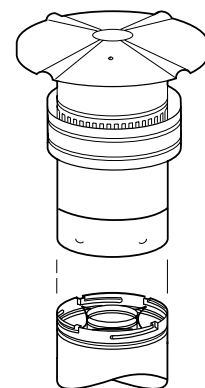

Figure 27
K. Install the vertical termination - The final step involves installation of the SV4.5VTR Vertical Termination. Extend the vent sections to the height as shown in the "Vertical vent termination section" on **page 5**. The SV4.5VTR Vertical Termination (**Figure 27**) installs in the exact same fashion as any other **Secure Vent** section. Align the termination over the end of the previously installed section, adjusting the radial alignment until the four locking dimples of the termination are aligned with the inlets of the four incline channels of the last vent section. Push the termination down until it fully engages, then twist the termination clockwise running the dimples down and along the incline channels until they seat at the end of the channels.